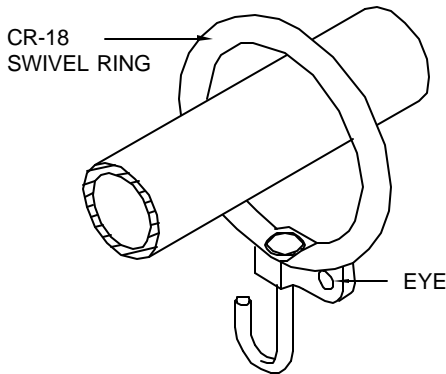

Fig. 2-2
2. Place the CR-18 swivel rings and chain mesh onto the pipe with the eye of the swivel ring facing toward the inside of the opening. NOTE: The red tag must be at the top, on the closing side of the gate (Fig. 2-2).